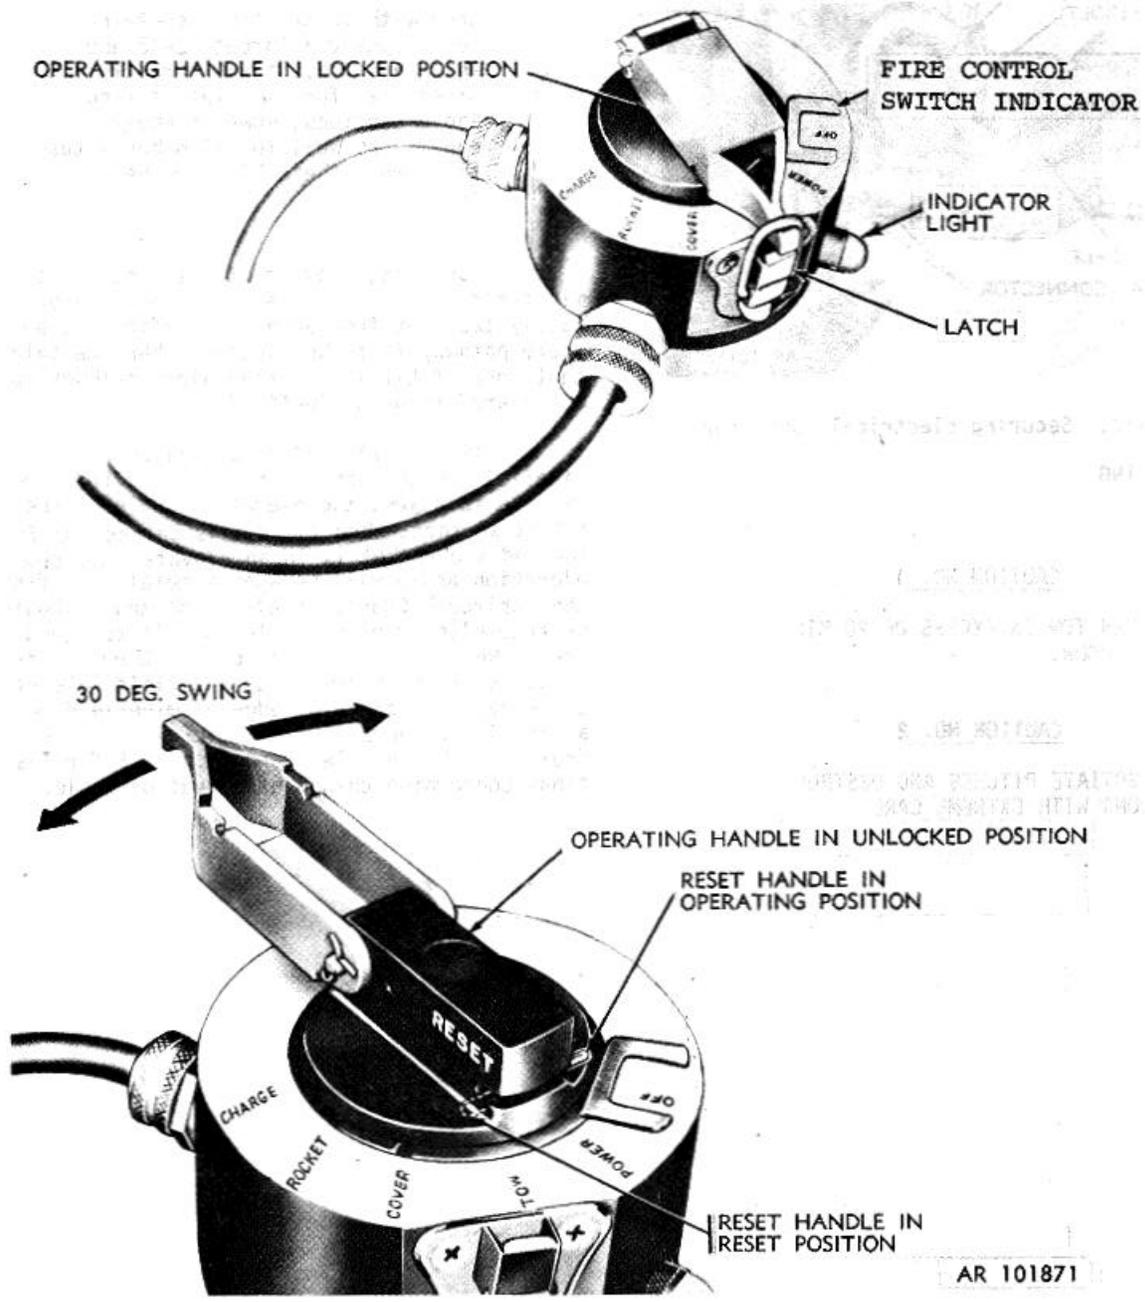

Figure 2-41. Firing control switch.
c. If reset handle of firing control switch (fig. 2-41) is not in operating position. lift it up and move to operating position.
MAKE CERTAIN FIRING CONTROL SWITCH INDICATOR IS AT OFF POSITION AND THAT RESET HANDLE IS IN OPERATING POSITION (FIG. 2-41) BEFORE CONNECTING TO POWER SUPPLY. IF INDICATOR AND RESET HANDLE ARE NOT IN PROPER POSITION, MOVE RESET HANDLE TO RESET POSITION AND RATCHET SWITCH BACK AND FOURTH TO OFF POSITION. THEN REPLACE RESET HANDLE IN OPERATING POSITION BEFORE CONNECTING TO POWER SUPPLY.
Open latch on firing control switch and open operating handle to its unlocked position (fig. 2-41). Make sure reset handle is in its operating position.